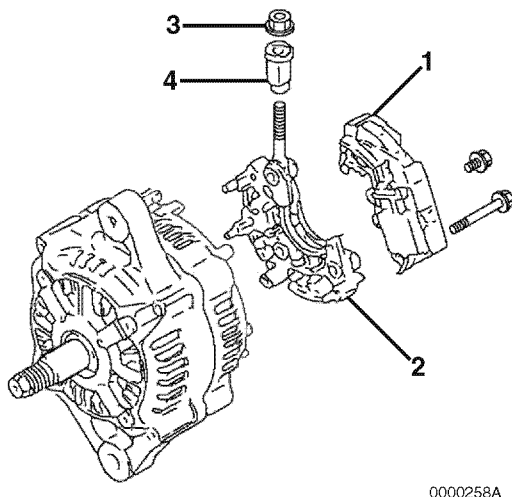

Figure 11-7
4. Remove the bolt retaining the regulator assembly (**Figure 11-7, (1)**) to the holder (**Figure 11-7, (2)**).
5. Remove the bolts retaining the holder (**Figure 11-7, (2)**) to the rear frame housing. Remove the holder.
6. Remove the nut (**Figure 11-7, (3)**) retaining the insulation bushing (**Figure 11-7, (4)**). Remove the insulation bushing.